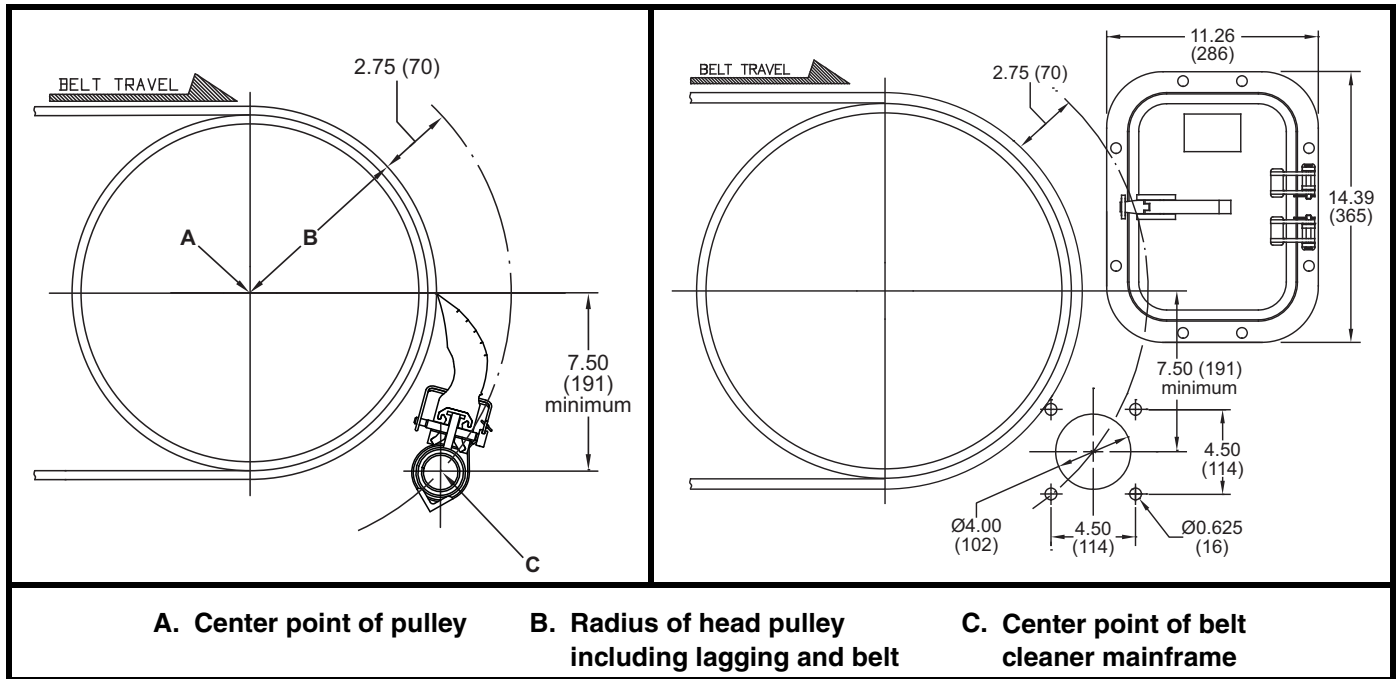

Figure 2. Belt Cleaner Mainframe Location & Chute Wall Cutouts for Martin® PV Cleaner with Martin® Twist Tensioner
1. On operator side of chute, find pulley center point (A).
2. Measure radius of head pulley including lagging and belt thickness (B). To this dimension, add 2.75 in. (70 mm).
3. Starting from center point (A), measure the total distance calculated in step 2 (B + 2.75) and draw an arc on chute wall.
4. Measure down from pulley's horizontal centerline the distance shown in Figure 2 and draw a horizontal line parallel to it. Locate center point of belt cleaner mainframe (C) where this line intersects the arc on the chute wall.